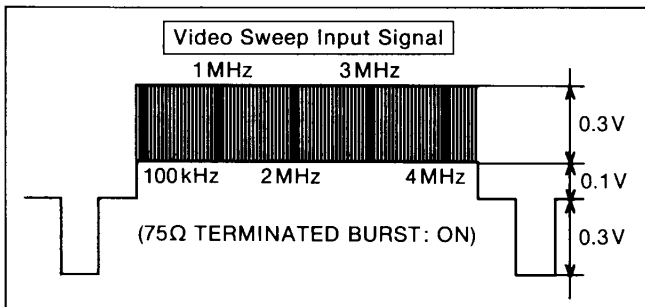

Figure E27
2. Set the sweep generator output as shown in Figure E27.